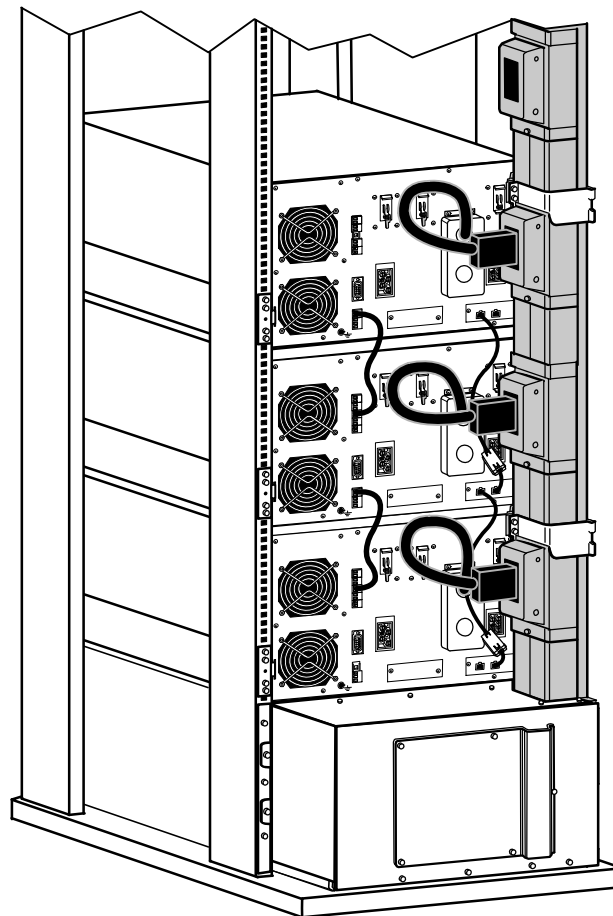

Figure 43. Connecting UPSs to the BladeUPS Bar (Bottom Entry Shown)
20. Connect the parallel input cord from each paralleled UPS to the BladeUPS Bar in the rack as shown in Figure 43.